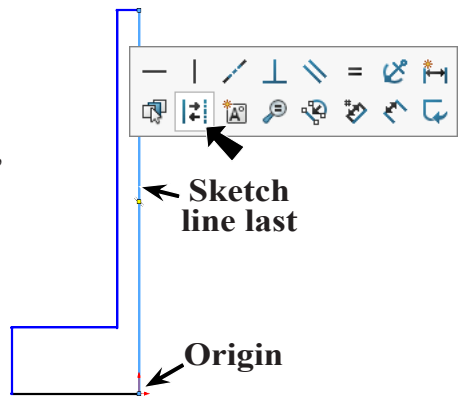

**Fig. 1
Step 2. Click **Front Plane**  in the Feature Manager and click **Sketch**  on the context toolbar, **Fig. 1**.